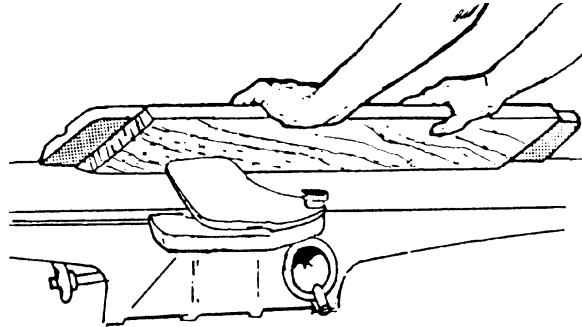

Figure 39
- ❑ Although the fence may be tilted in or out, it is recommended that the fence be tilted *in* toward the operator (as shown in Figure 39) for safety reasons.
5. Feed the stock through the cutterhead, making sure the face of the stock is completely flat against the fence and the edge is making solid contact on the infeed and outfeed tables (Figure 39).